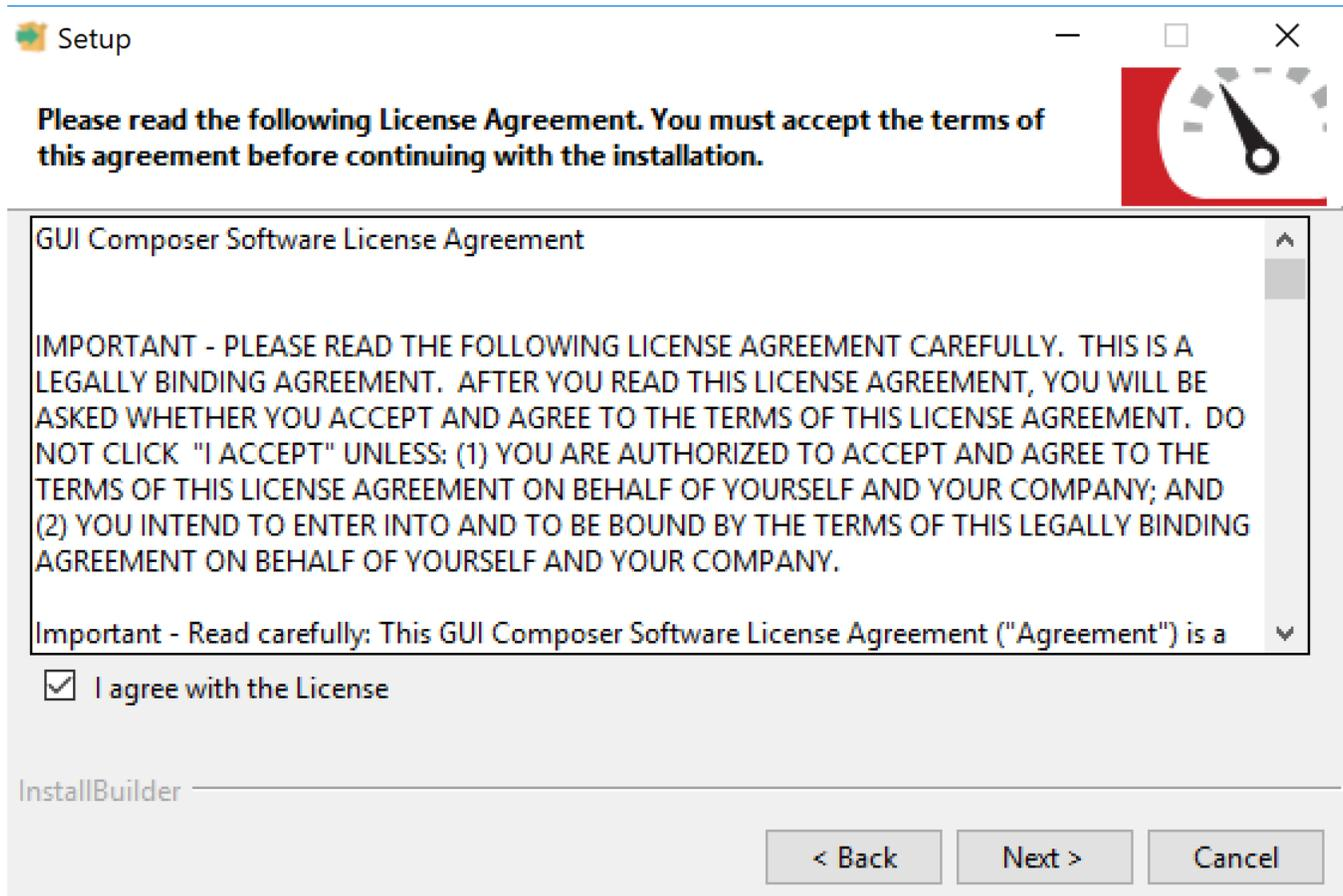

Figure 5. Accepted License Agreement
Step 4. Check the *I agree with the license* option if accepted and then click the *Next* button (see Figure 5).